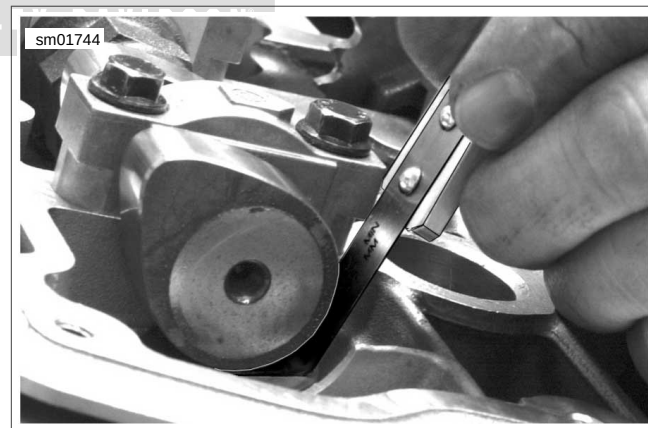

Figure 1-51. Measuring Valve Lash
- See Figure 1-51. Use blade style metric feeler gauges to measure the gap (lash) between the cam and tappet.